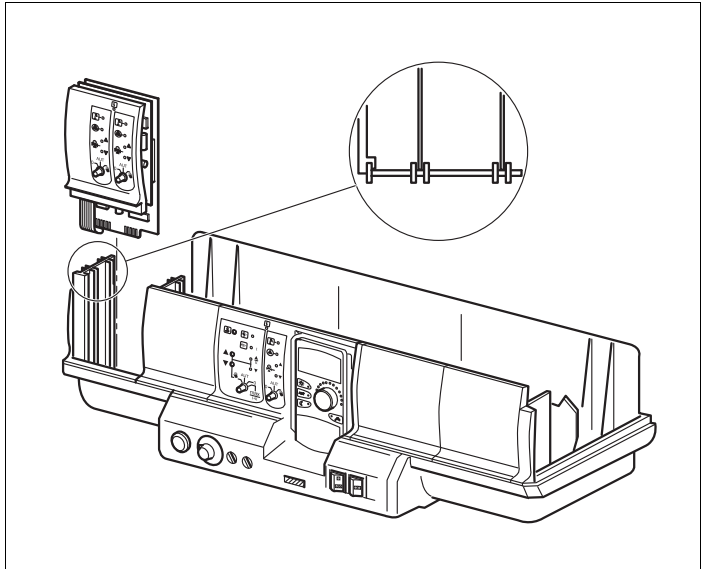

Fig 20 Module installation and removal
- Remove blanking plate from slot 1 (→ Fig. 20) in the control unit.
- Push new module from above into the free slot by pressing on the sensor strip (→ Fig. 20) until it clicks audibly into place.
- Push new module from above into the free slot by pressing on the sensor strip (→ Fig. 20, Page 31), until you hear it click into place.